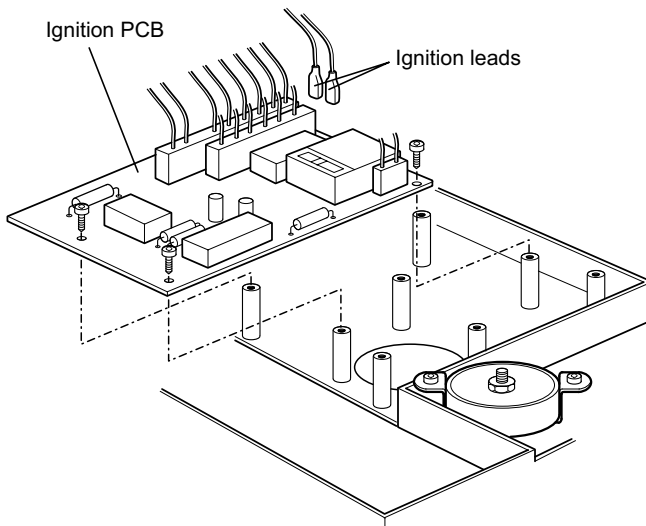

Fig. 25
8.4 IGNITION LEAD - Refer to Fig. 25
3. Disconnect the lead from the ignition PCB, noting its position (see Fig. 25).
8.15 IGNITION PCB - Refer to Fig. 25
3. Refer to Fig. 25, connect the wiring to the new PCB and re-assemble in reverse order.